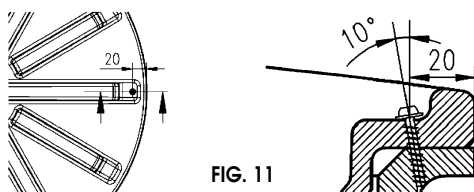

FIG. 11
- To prevent any unauthorised opening of the cover (child safety), particularly for buried installation, the cover may be locked in place using the screw provided. To this end, drill a Ø 3mm hole in the recession predefined on the tank's cover and flange (10° angle), then screw in the screw. (See FIG. 11 - below).